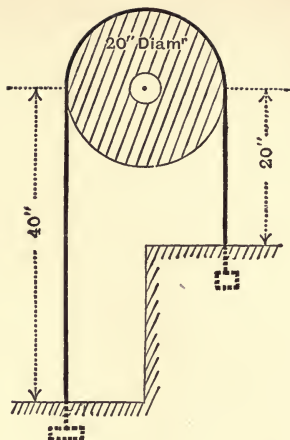

Fig. 3.
6. A steel band passes round a pulley mounted on a fixed horizontal axis, the ends of the band being rigidly anchored as shewn in fig. 3. The band is initially stretched to a tension of 200 lbs. If the coefficient of friction between the band and the wheel is 0.25 calculate what couple would be required to rotate the wheel in a clockwise direction.